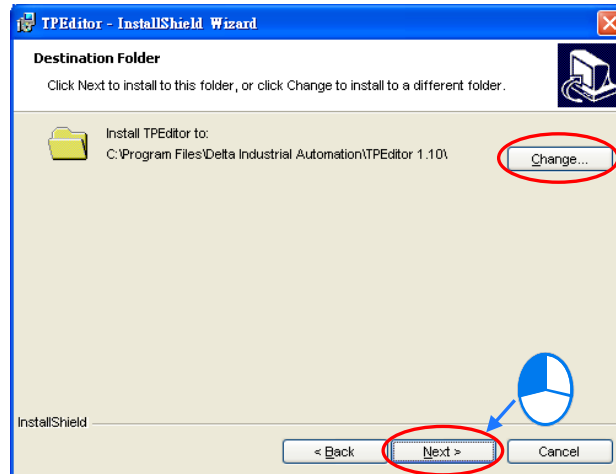

Figure 1-4 Process of installing TPEditor
(6) Leave the default path unchanged, or click **Change...** to change the path. Click **Next** to proceed to the next step, as shown in Figure 1-4.